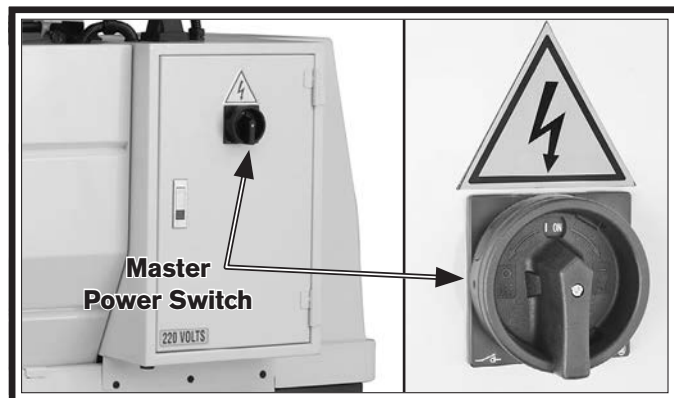

Figure 34. Master power switch turned ON.
12. Connect the lathe to the power source, then turn the master power switch to the ON position (see **Figure 34**).